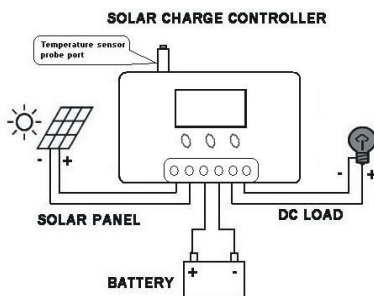

Figure 1
- 2.3 As shown on the figure 1, connect the (1) Load, (2) Battery and (3) Solar Panel to the controller according to the order of (1) (2) (3). Pay attention to the load, battery, solar panel and controller of same polarity.